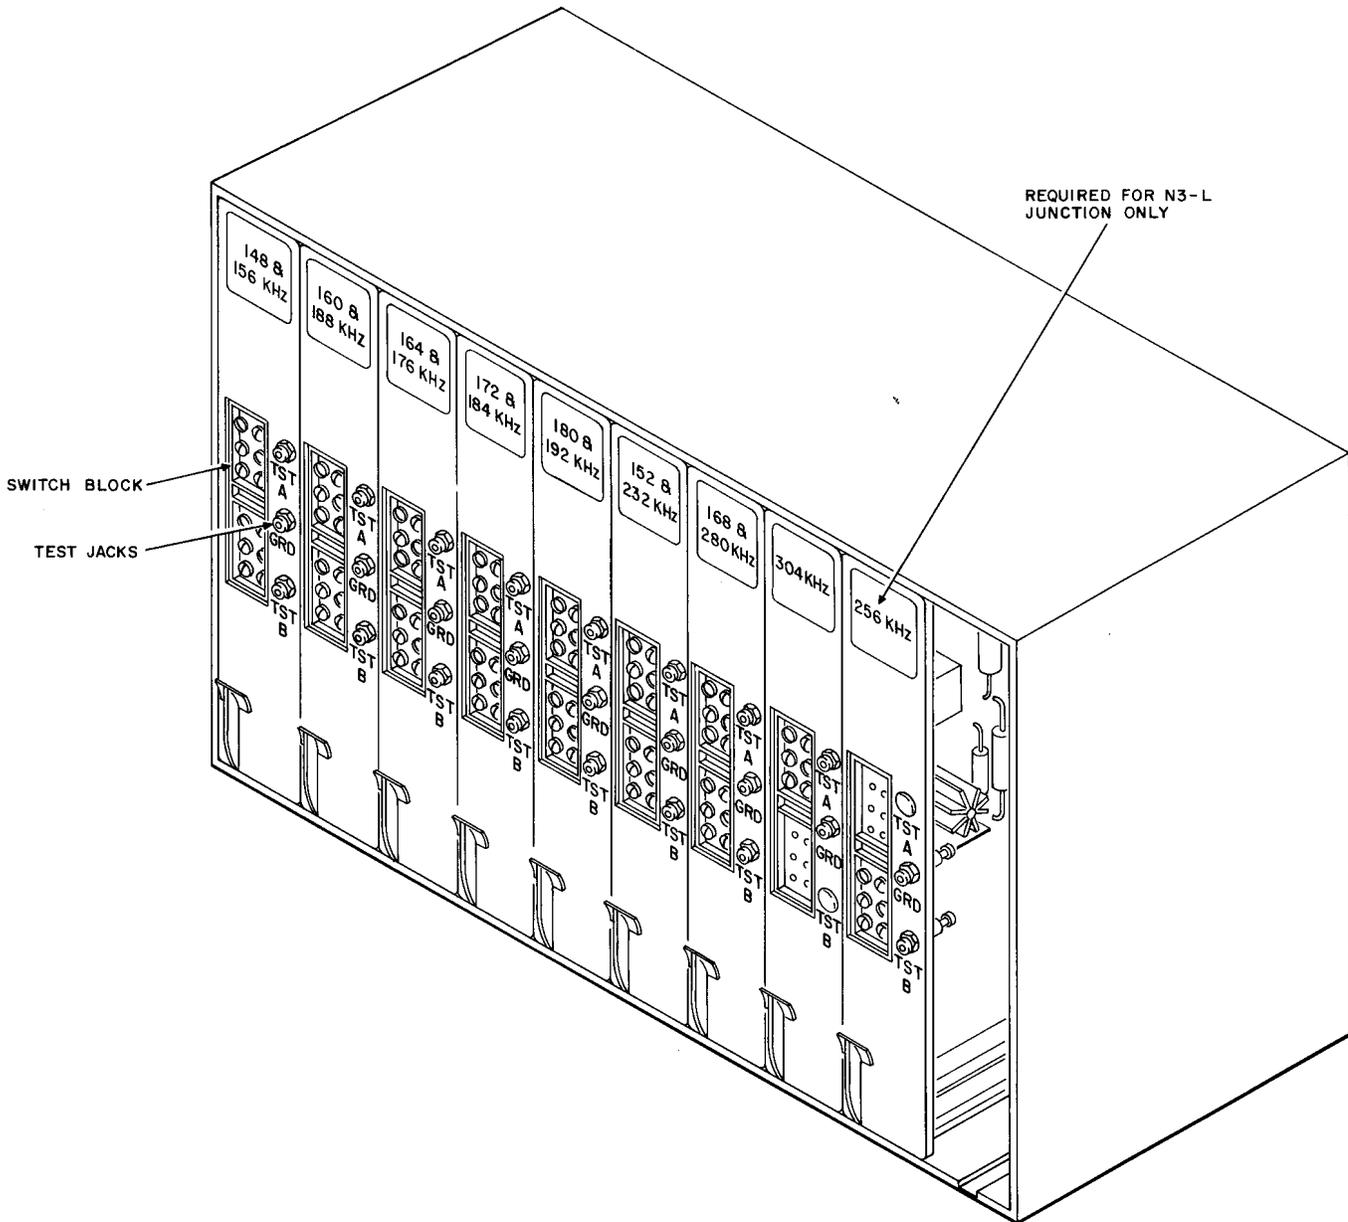

Fig. 1—N3 Carrier Distribution Amplifier Circuit Plug-In Units
1.03 The secondary distribution amplifier circuit consists of nine single-module plug-in units as shown in Fig. 1. The nine plug-in units contain 16 distribution circuits packaged in the following